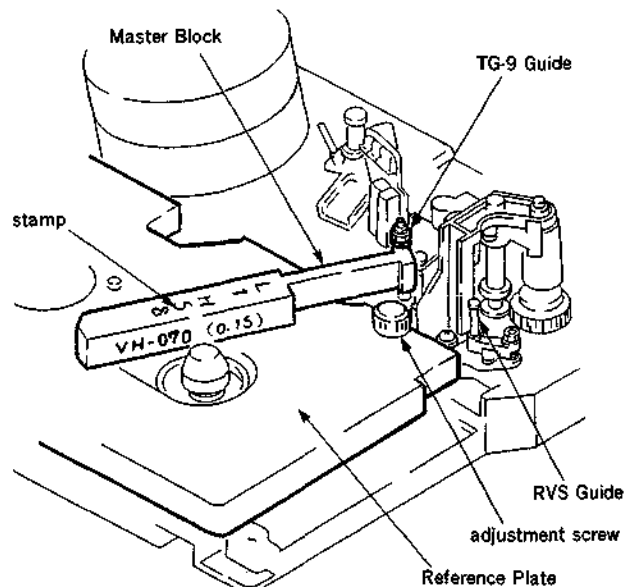

Fig. 2
- (1) Press the PLAY button on the remote controller for the threading completion mode. (Refer to sub-section 4-1-3.)
- (2) Clean the mounting face of the reference plate and the four mounting points on the chassis with cleaning fluid.
- (3) Install the reference plate on the chassis. (Fig. 2) (If the reference plate moves about when the top of the plate is touched gently with the fingers at a point near where it is installed on the chassis, turn the adjustment screw until the plate no longer moves about.)
- (4) Clean the top of the reference plate and the adjustment face of the master block with cleaning fluid.
- (5) Set the master block with the stamped L1 face upward, then place it against the TG-9 guide from the direction shown in the drawing. Turn the adjustment nut to meet the specification.
- (6) Perform tape path alignment of section 6.
- RG reference pin (1) (J-6380-040-A)
- (1) Remove the cassette compartment according to sub-section 4-2.
- (2) Remove the E ring, then pull out the RVS arm ass'y. (Fig. 2)
- (4) Remove stopper washer 2.3, then pull out the RVS cam gear. (Fig. 2)
- ② Pass RG reference pin (1) through the hole in the RVS cam gear, then align it with hole B in the chassis, engage the RVS cam gear with the RVS relay gear, then install the gears on the shafts. (Fig. 2). Also, confirm that the hole in the press cam gear coincides with the hole in the chassis. (Refer to sub-section 4-13.)